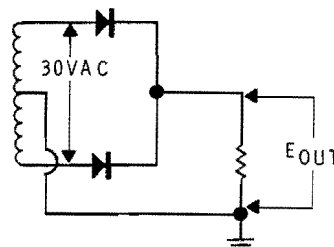

Figure 4-64
2. Refer to Figure 4-64.  $E_{out}$  will have an average value of:
- B. Figure 4-64.